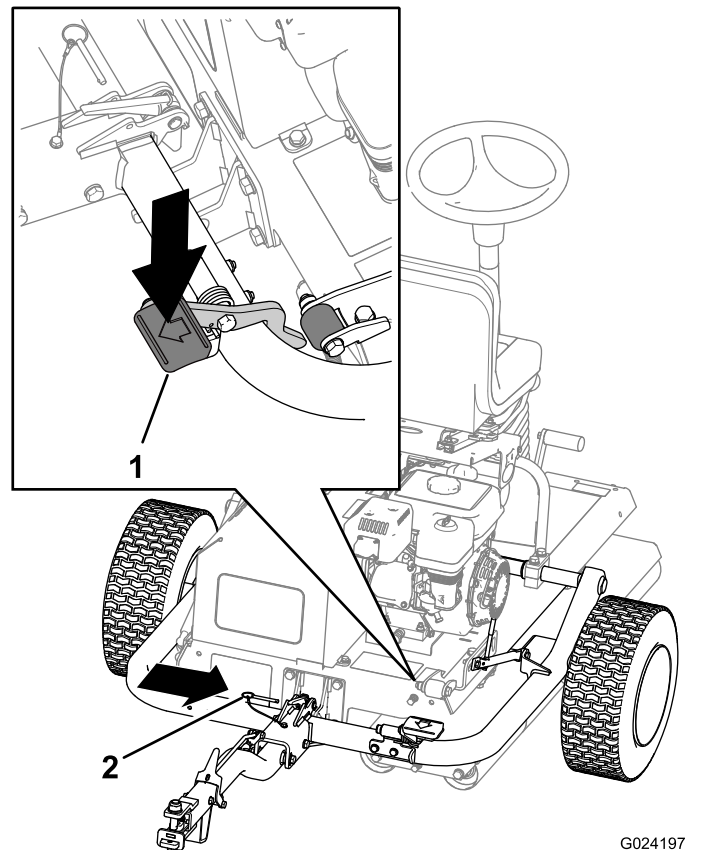

Figure 26
- C. Step on the hitch pedal until the hitch locks into place (Figure 26).
- D. Insert the locking pin (Figure 26).